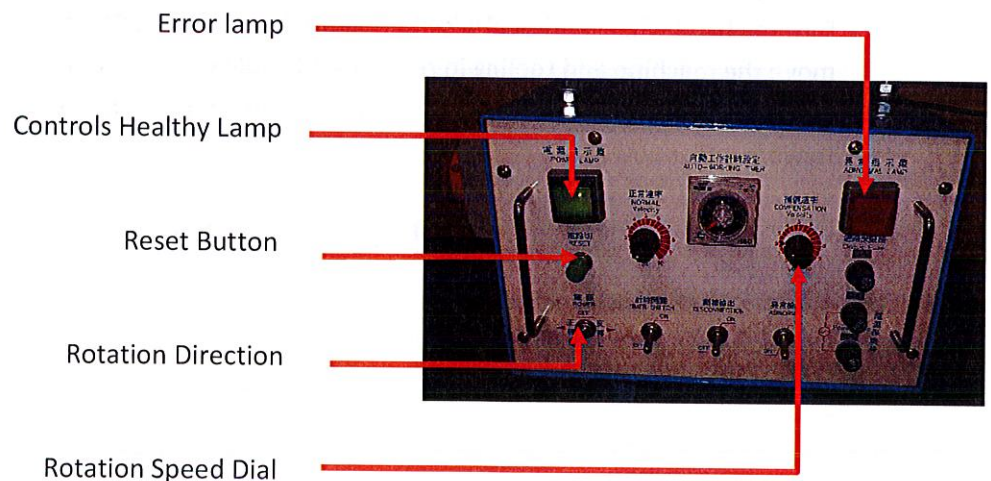

Figure 3: Horizontal Decoiler Control Panel
6.2. Figure 3 shows the horizontal Decoiler control panel (DCP) and a description of the commonly used controls.